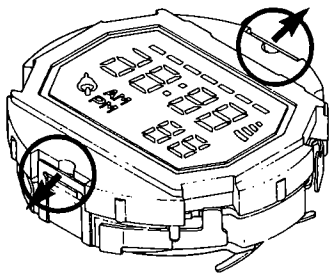

Fig. 1
- The LC display panel supporter is hooked and fixed at two areas of a supporter for plate complete (II).
The supporter for plate complet (II) is unset by using a tweezers or the like to pry the supporter toward the arrow marks from the side of the LC display panel. (Fig. 1)